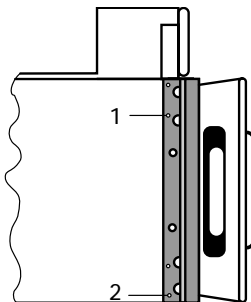

fig. 9
- Remove the protective frame by removing the screws 1 and 2 (see fig. 9). Remove the frame and replace screws.